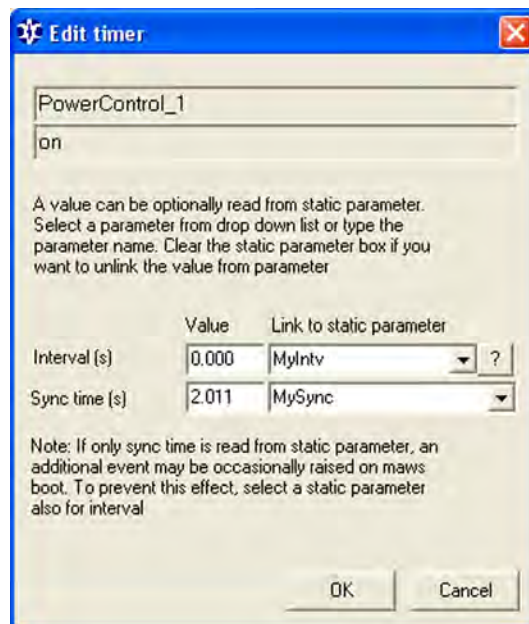

Figure 92 Edit Timer Window
2. Right-click the timer to be modified either in the **Interval** or the **Synch time** column. Select **Advanced edit** from the list. The **Edit Timer** window opens; see Figure 92 on page 188.